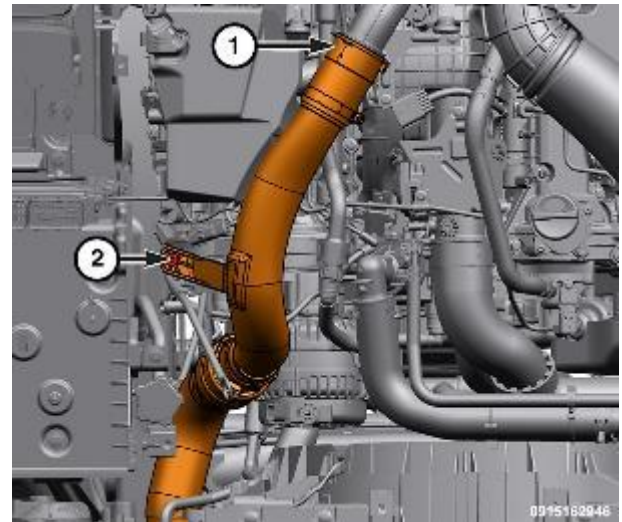

Figure 104 – CAC Hose
21. Remove the Charge Air Cooler (CAC) hose bolt (2) (Figure 104).
22. Release the retaining clip (1) and disconnect the CAC hose from the turbocharger elbow and position aside (Figure 104).